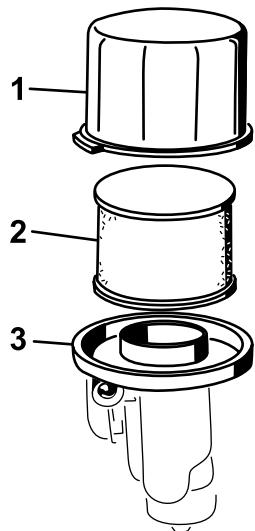

Figure 23
3. Remove the cover and clean it thoroughly (Figure 23).
4. Remove the foam pre-filter from the paper filter (Figure 23), and replace the paper filter if it is excessively dirty.